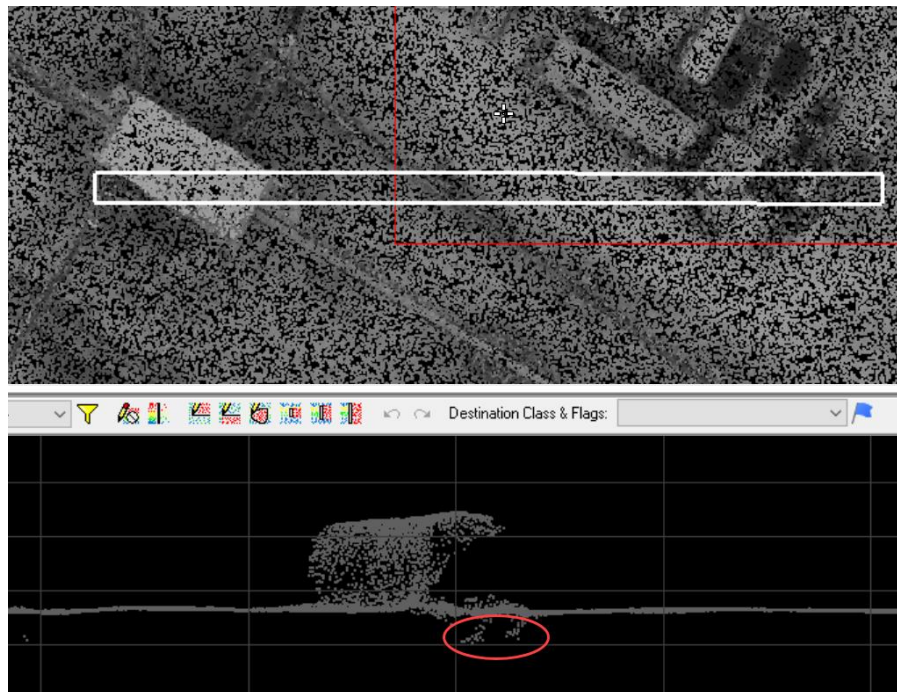

Figure 3: Low Noise in a DIM point cloud
The first step is noise removal. LP360 has a great automated tool (a PCT, of course) for filtering both low noise and *isolated* points. I do not like to combine this into the ground filter macro because a manual quality check (QC) step is in order. If you allow any low noise points to remain in the source point class for ground classification, that point (if it is the lowest in a cell) will be marked as a seed point, corrupting the rest of the classification process. If the adaptive TIN filter has an Achilles heel, this is it! An example of low noise in a dense image matching (DIM) point cloud is depicted in Figure 3. If you are manually cleaning these (by reclassifying to Low Noise in the profile view), be aware that they generally only occur under areas of “confused” surface such as overhead structures and vegetation.